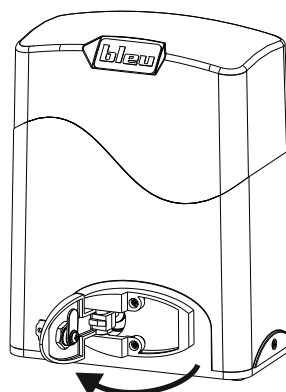

Fig.17
- Pull the release lever until it stops, about 90° approximately (Fig. 17).